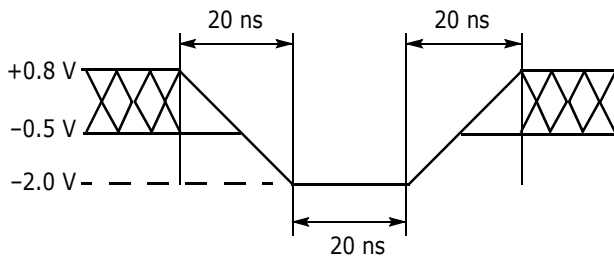
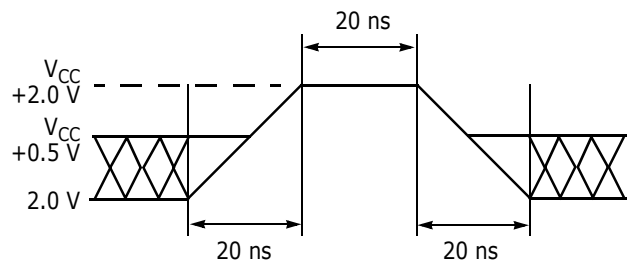

Figure 7. Maximum Negative Overshoot Waveform
Figure 8. Maximum Positive Overshoot Waveform
1. Minimum DC voltage on input or I/Os is –0.5 V. During voltage transitions, inputs or I/Os may overshoot V_{SS} to –2.0 V for periods of up to 20 ns. See Figure 7. Maximum DC voltage on input or I/Os is $V_{CC} + 0.5$ V. During voltage transitions, input or I/O pins may overshoot to $V_{CC} + 2.0$ V for periods up to 20 ns. See Figure 8.
2. Minimum DC input voltage on pins A9, OE#, and ACC is –0.5 V. During voltage transitions, A9, OE#, and ACC may overshoot V_{SS} to –2.0 V for periods of up to 20 ns. See Figure 7. Maximum DC input voltage on pin A9, OE#, and ACC is +12.5 V which may overshoot to +14.0V for periods up to 20 ns.